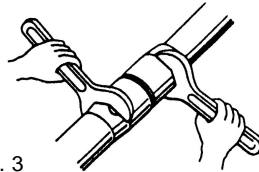

Fig. 3
2. Slide Upper fiberglass section into Center section. Tighten Joint Coupler with tow wrenches as in Figure 3.